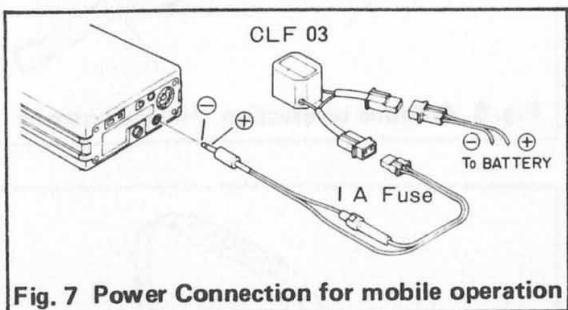

Fig. 7 Power Connection for mobile operation
This socket accepts an external DC power-source supplied via the DC adaptor supplied with the unit. See Fig. 7.
1. For power connection, refer to Fig. 7.